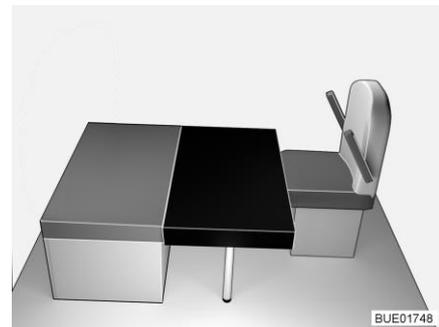

Fig. 156 After conversion
- Place the rectangular additional cushion on the table (in front of the seat cushion of the bench, see Fig. 156). When doing so, the cutout in the additional cushion is located on the frontal supporting wall.